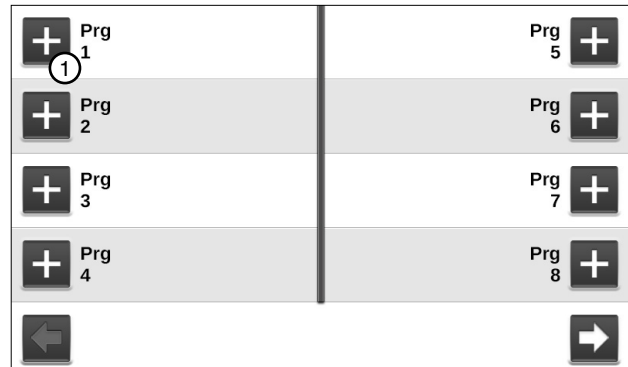

Figure 111-2 Step Programs Screen
2. Push the **New Program** button corresponding to the preferred program number as shown in Figure 111-2.